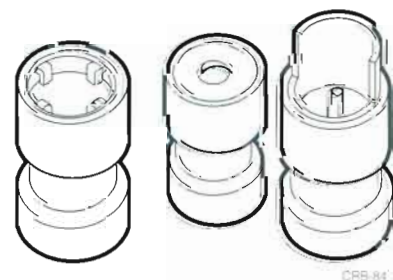

Figure 3.18 Mechanical Check Valves
- A mechanical type (Figure 3.18),